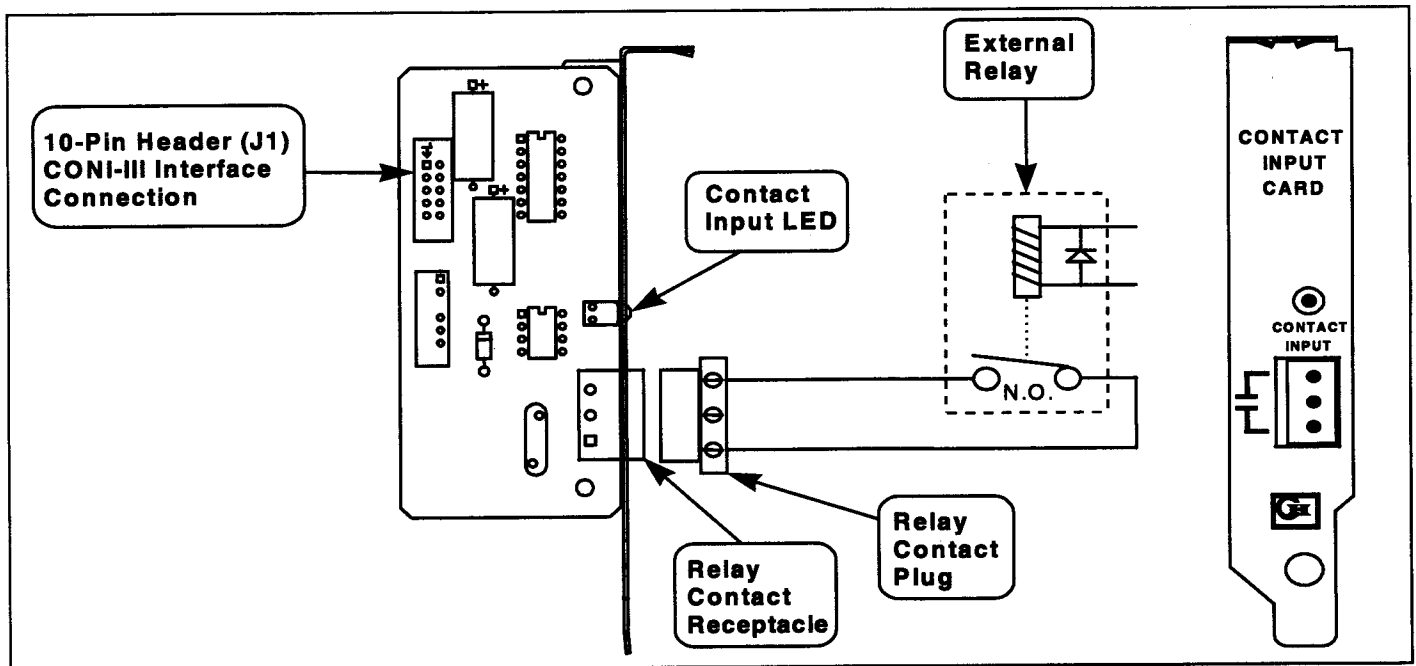

Figure 1. Contact Input Card Board
The CIC has one red Light Emitting Diode (LED) and a 3-pin PHOENIX connector visible from the rear of the PC (see Figure 1). The LED is lit when the CIC is receiving the contact closure. The connector is used to connect the relay to the CIC. The wiring of the connector to the relay is shown in Figure 1.
The CIC also has a 10 position male header (see Figure 1). The CONI-III Interface Connection is used to send the contact closure to the CONI-III. This allows the CONI-III to send the contact closure to the application software. Details of the installation and use of the CONI-III can be found in I.L. 17551.
5. Attach wiring for the External Relay to the Relay Contact Plug (see **Figure 1**).
6. Insert the Relay Contact Plug into the Relay Contact Connector on the CIC board (see **Figure 1**).